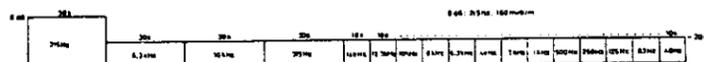

Fig. 11-4 STD-331B test tape
- STD-331B* : Playback adjustments (See Fig. 11-4)